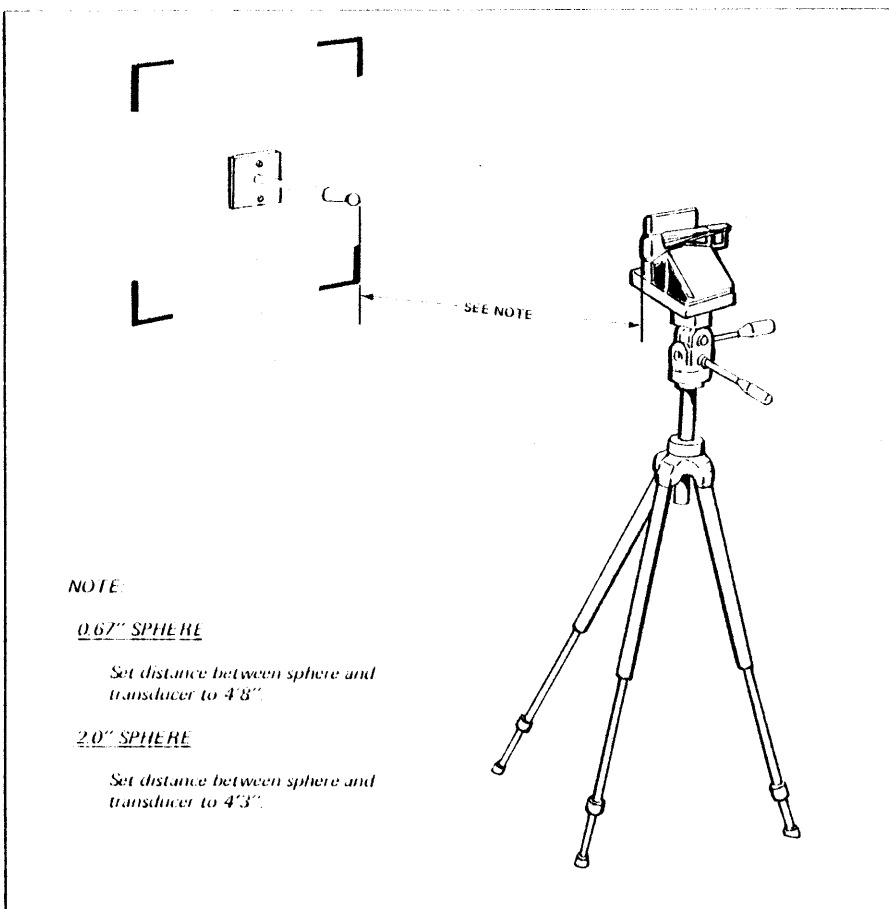

FIGURE 2-9. SETTING THE DISTANCE BETWEEN CAMERA AND TARGET
4. Set the distance between the sphere and the transducer to 4'8" using a tape measure (Figure 2-9).